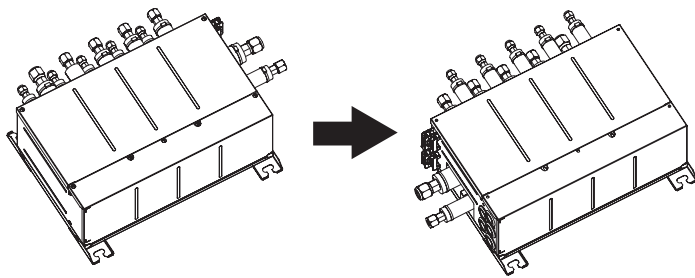
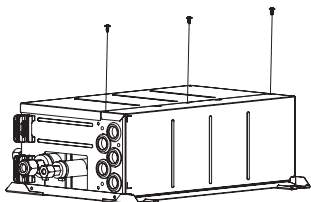

Fig. 4-4
Fig. 4-5
4.1. The direction of the piping can be changed. (Fig. 4-4). [Work Procedures] (Fig. 4-5)
① Remove the screws in each part.